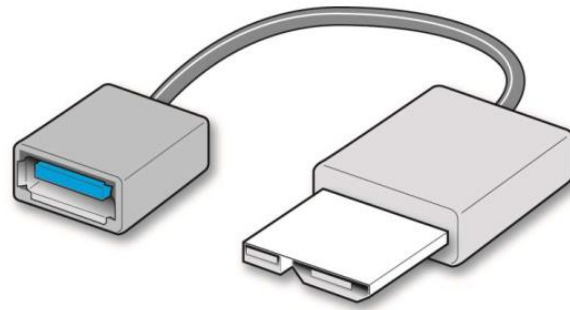

Figure 2: Micro USB 3.0 to USB OTG.
- Micro USB 3.0 to USB OTG (Figure 2)